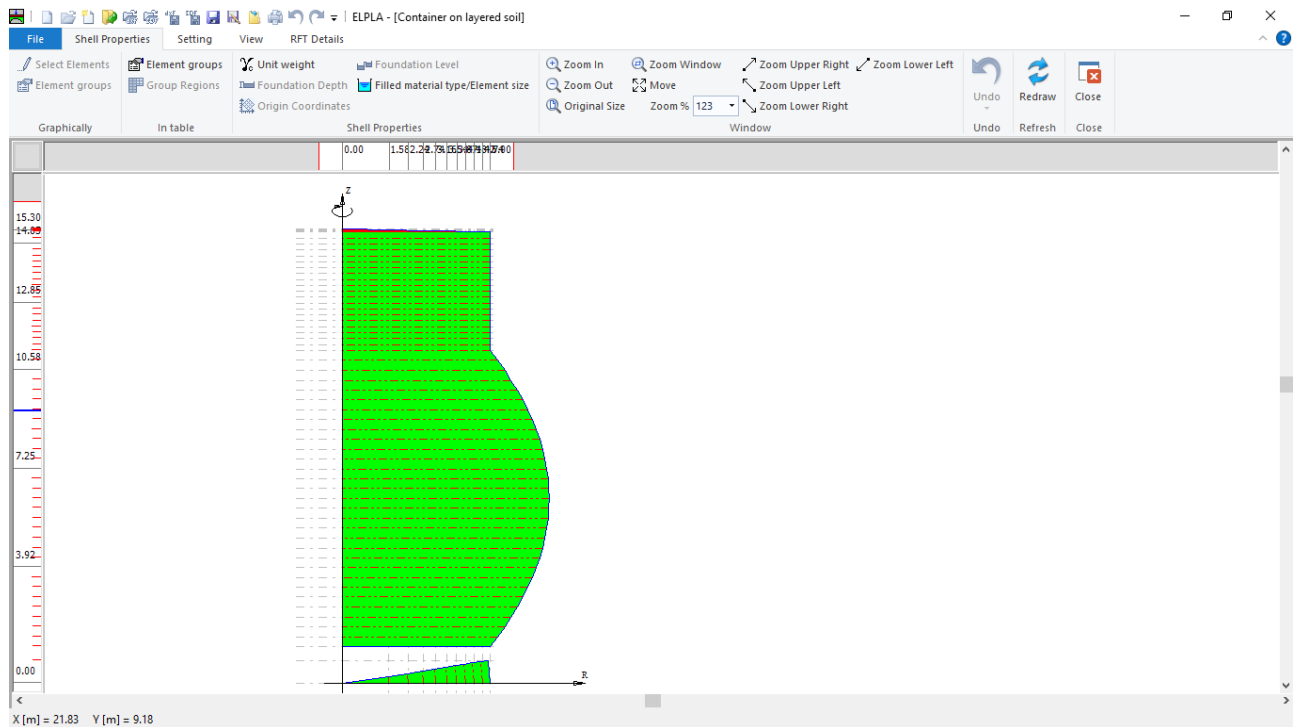
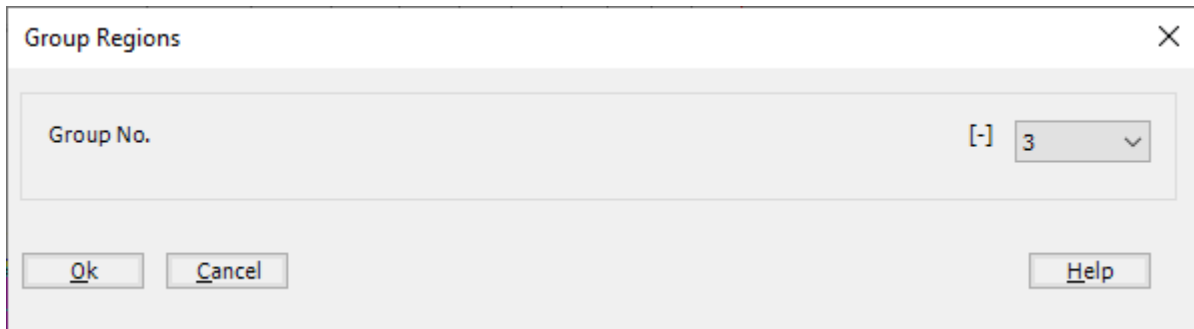
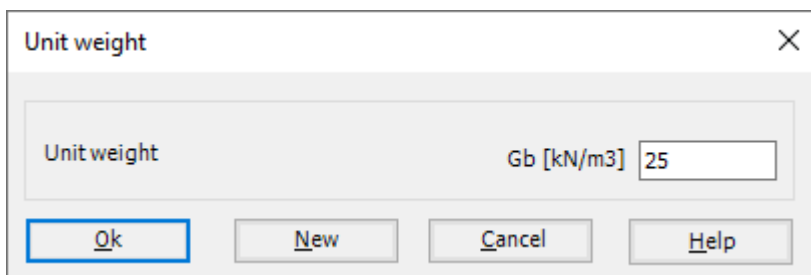

Figure 12.17 "Shell Properties" Window
Figure 12.20 "Group Regions" dialog box
Figure 12.21 "Unit weight" dialog box
To define the container properties, choose "Shell Properties" command from "Data" Tab. The following window in Figure 12.17 appears with default shell properties. The data of shell properties for the current example, which is required to be defined, are element groups, group regions, the unit weight of the container, and the filled material properties. Any other data corresponding to shell properties in the program menus are not required for this example.
- Choose "Select Elements" command from "Graphically" menu in the window of Figure 12.17.
- Choose "Elements Groups" command from "Graphically" menu in the window of Figure 12.17, "Group Regions" dialog box Figure 12.20 appears
To enter the unit weight of the container, choose "Unit weight" command from "Shell Properties" menu in the window of Figure 12.17. The following dialog box in Figure 12.21 with a default unit weight of 25 [kN/m3] appears. Click "OK" button.
To define the filled material properties of the container, choose "Filled material type/Element size" command from "Shell Properties" menu in Figure 12.17. The following form in Figure 12.22 appears.